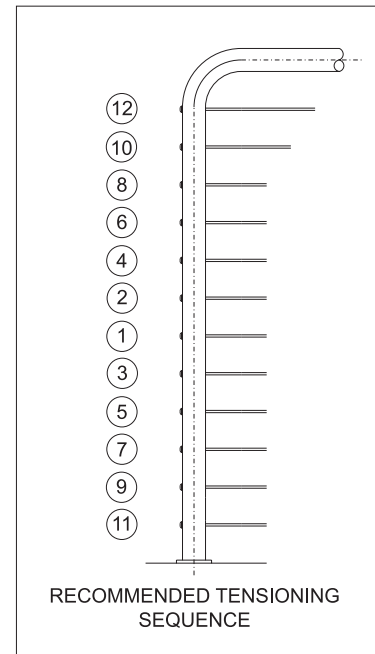

Figure 11
2. Tension all cables in sequence, beginning with the center cables, moving up and down toward the top and bottom. (Figure 11) As you tension each cable, give it a sharp pull downward mid-span to help set the wedges, then re-tension as necessary in the same sequence.